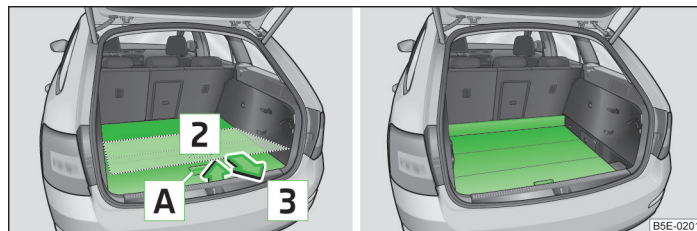

Fig. 96 Setting the variable loading floor to the lower position/variable loading floor in the lower position
- Grasp the rear of the variable loading floor by the handle **A** » Fig. 96.